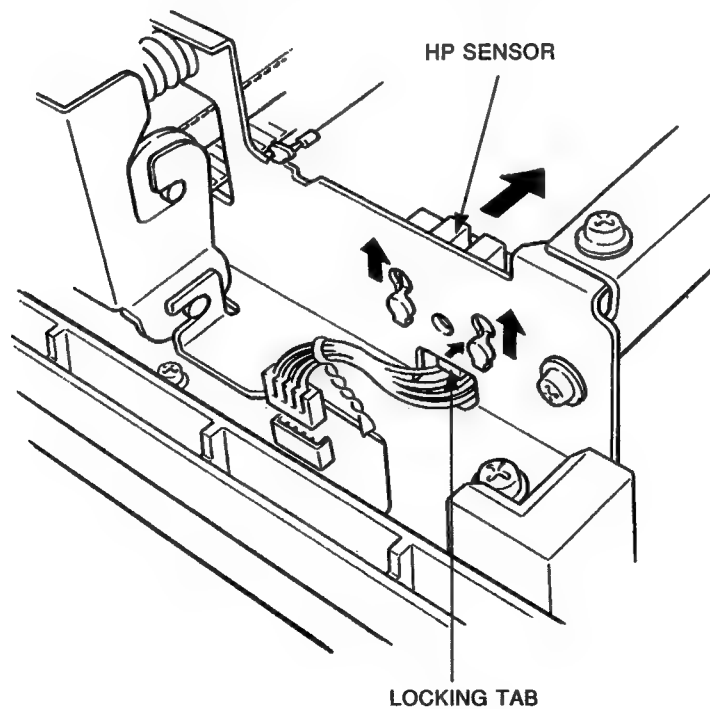

Figure 3-26 HP Sensor
2. Unlock the locking tab of the HP sensor holder and lift up and slide to the left side frame to remove it (see Figure 3-26).